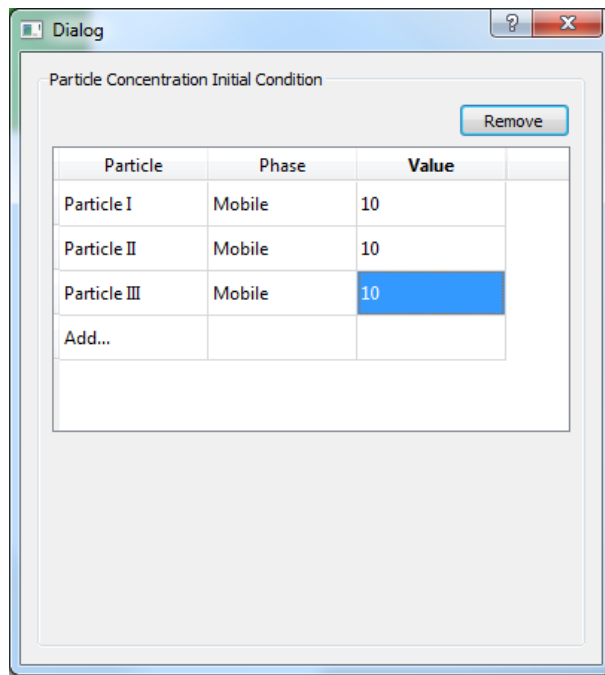

Figure 4.5: Particle initial concentration
- **Initial particle concentration:** Click on the ellipsis, "...", in front of the **Particle Initial Concentration** label in properties windows and enter a concentration of 10 for the three particle classes as is shown in Figure 4.5.